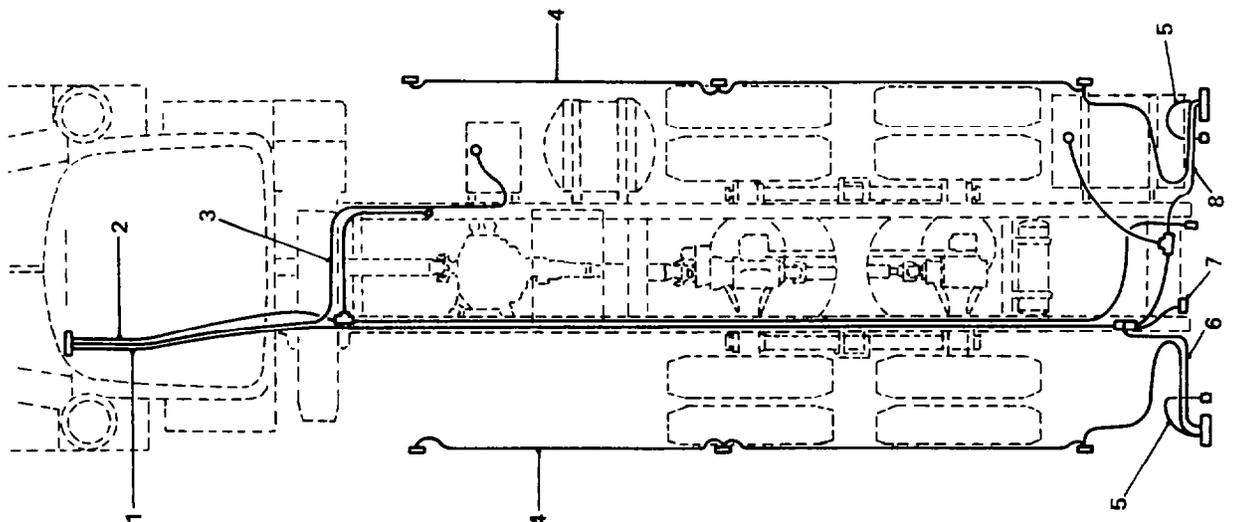

Fig. 384 — Rear Wiring Harness
- a. The replacement procedure for the rear wiring harness, illustrated in fig. 384, is identical to that detailed for the engine wiring harness (refer to para. 154).